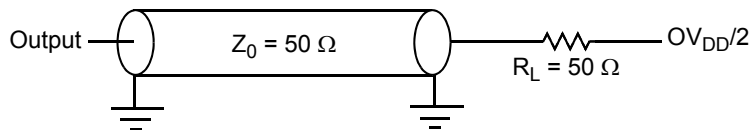

Figure 36. AC Test Load for the JTAG Interface
1. All outputs are measured from the midpoint voltage of the falling/rising edge of t_{TCLK} to the midpoint of the signal in question. The output timings are measured at the pins. All output timings assume a purely resistive 50-Ω load (see Figure 36). Time-of-flight delays must be added for trace lengths, vias, and connectors in the system.
2. The symbols used for timing specifications follow the pattern of $t_{(first\ two\ letters\ of\ functional\ block)(signal)(state)(reference)(state)}$ for inputs and $t_{(first\ two\ letters\ of\ functional\ block)(reference)(state)(signal)(state)}$ for outputs. For example, t_{JTDVXH} symbolizes JTAG device timing (JT) with respect to the time data input signals (D) reaching the valid state (V) relative to the t_{JTG} clock reference (K) going to the high (H) state or setup time. Also, t_{JTDVXH} symbolizes JTAG timing (JT) with respect to the time data input signals (D) went invalid (X) relative to the t_{JTG} clock reference (K) going to the high (H) state. Note that, in general, the clock reference symbol representation is based on three letters representing the clock of a particular functional. For rise and fall times, the latter convention is used with the appropriate letter: R (rise) or F (fall).